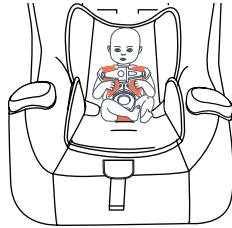

Fig. 45a
31. Child in car seat **with** insert, **without** pillow and harness covers. **NEVER** use pillow or harness covers in the Low Birth Weight Harness Routing (Fig. 45a).